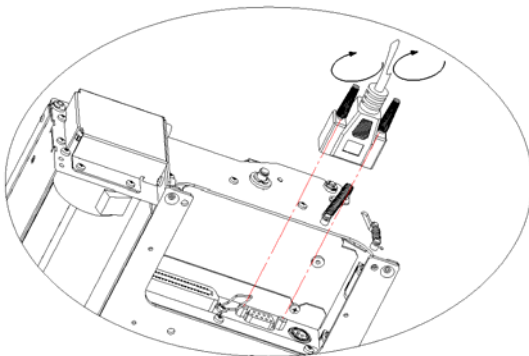
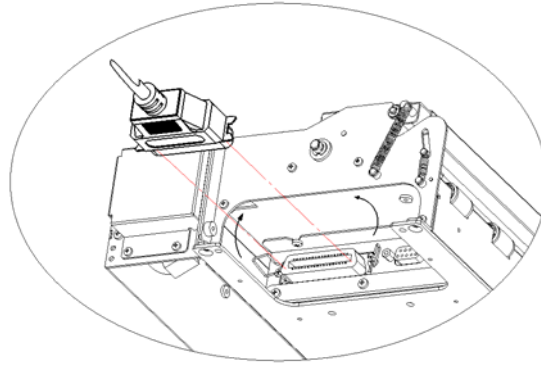
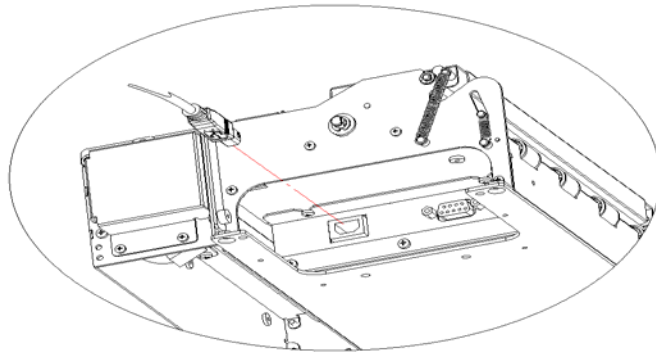

Figure 4.5 Connecting serial interface cable
Figure 4.6 Connecting parallel interface cable
Figure 4.7 Connecting USB interface cable
- 2) Connect one end of the interface cable into a relevant interface of the printer and fix them with screws or latch springs as figure 4.5, figure 4.6 and figure 4.7.